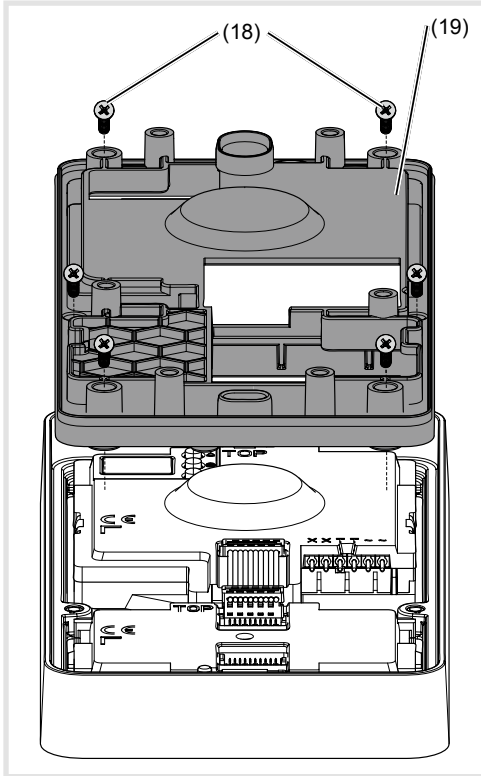

Figure 17: Module base dismantling
- Remove the connection terminal block (12) from the video insert.
- Loosen the screws (18) on the rear base of the modules (19) using a screwdriver and remove the base (figure 17).